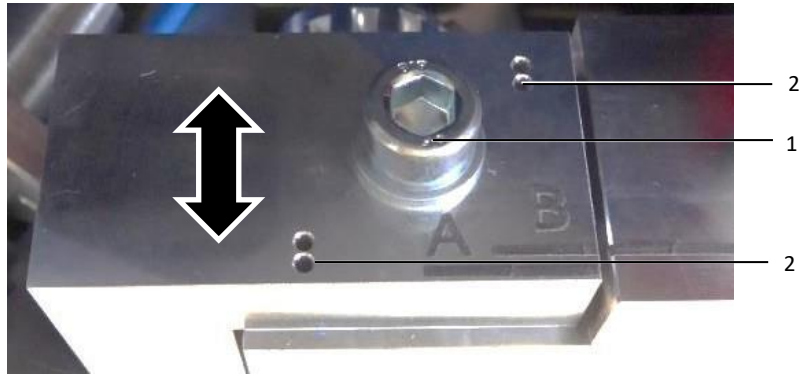

Fig. 14: Opening chock setting (set: B)
- Loosen the lockingscrew (fig. 14, item 1) so that the setting plate can be raised somewhat above the catch pins.
- Place the setting plate at the desired position. Whereby, a catch pin pair must match the appropriate openings (fig. 14, item 2).
- Retighten the locking screw (fig. 14, item 1).